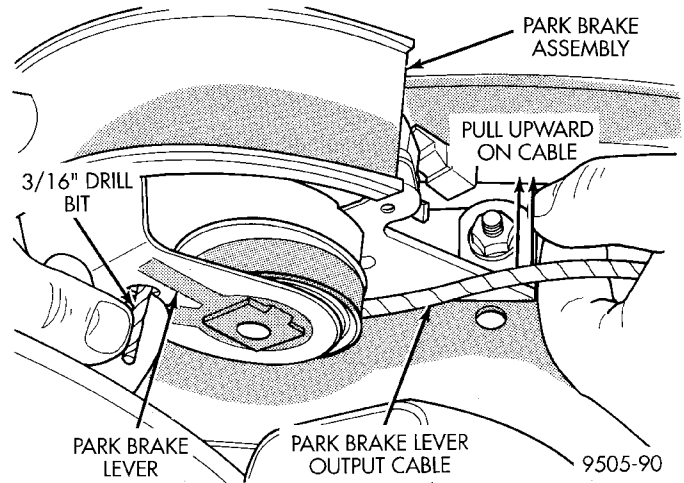

Fig. 8 Locking Pin Installed In Park Brake Mechanism
(7) Lower park brake lever handle.
(8) Grasp park brake lever output cable by hand and pull upward. Continue pulling on cable until a 3/16 in. drill bit can be inserted into handle and sector gear of park brake mechanism (Fig. 8). This will lock the park brake mechanism and take tension off park brake cables.